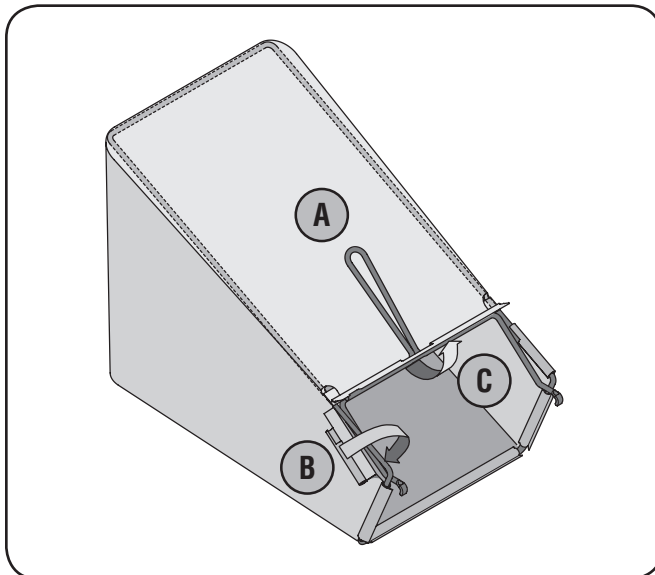

Figure 3-4
- b. Slip plastic channel of grass bag over rods on the frame. See Fig. 3-4. All the plastic channels except center top of bag attach from outside of bag.